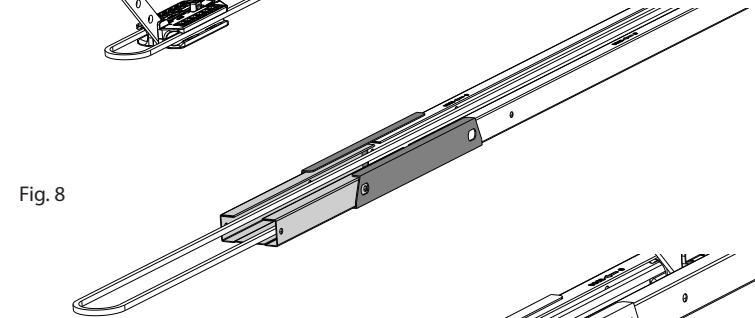

Fig. 8
11. Slide the rail coupler and 12 inch rail extension onto the pulley end of the rail. Coupler will slide onto the pulley end rail section until it meets the stop tab on the bottom of the rail. Align the 12 inch extension to the coupler with the pulley guard screw holes. Fig. 8